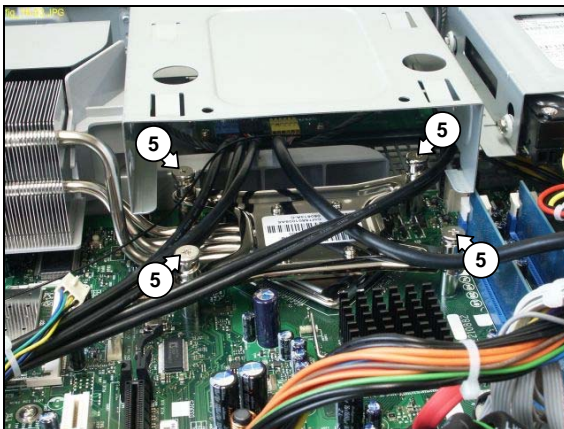

Figure 12.15-3
11. Undo the 4 mounting screws (5) of the CPU heat sink. See Figure 12.15-3.